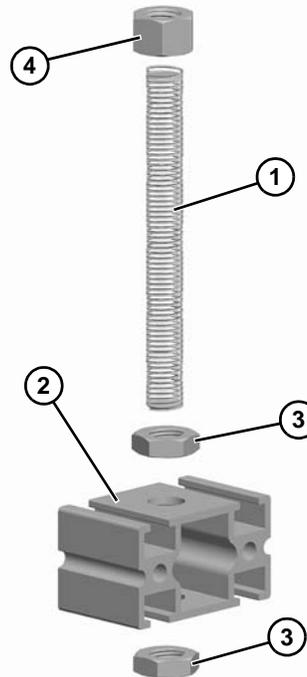

Figure 74
1. Install stud (Figure 74, item 1) to support tube (Figure 74, item 2) using two jam nuts (Figure 74, item 3).
2. Tighten jam nuts (Figure 74, item 3) leaving some thread protruding from bottom nut. Thread hex nut (Figure 74, item 4) onto stud.